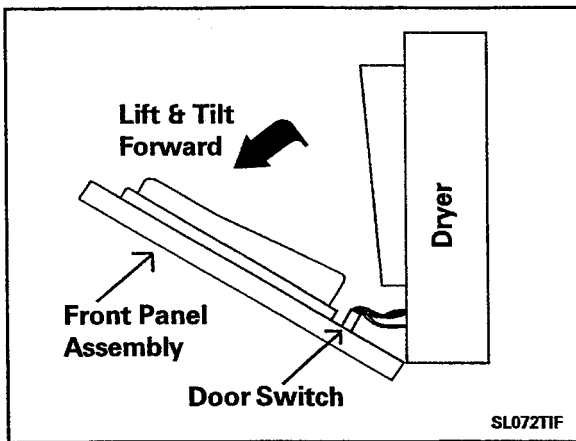

Figure 2-70
5. Tip the top of the front panel forward and slightly lift the front panel at the same time. Then remove the wires from the door switch (*Figure 2-70*).